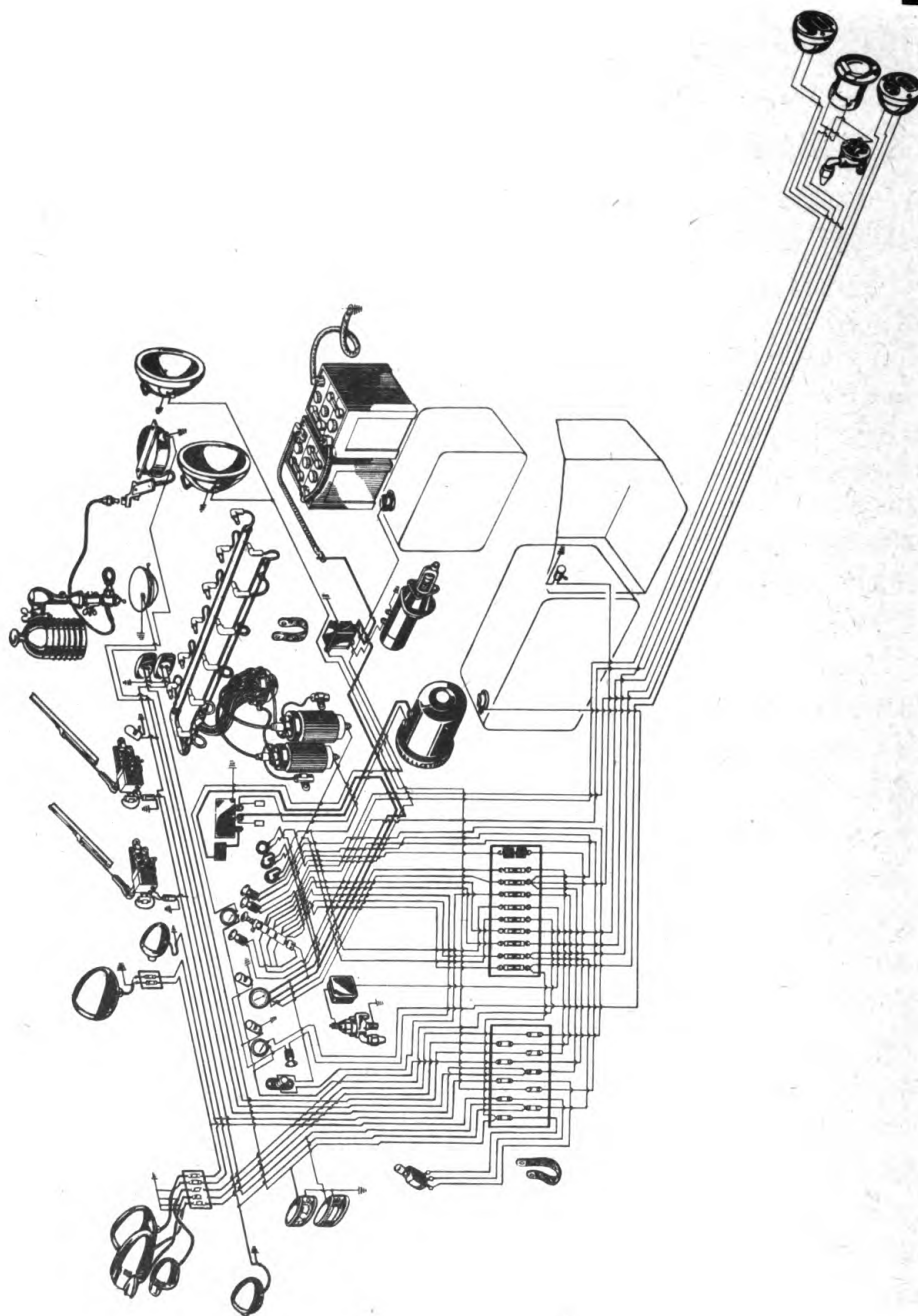

Figure 65 — Wiring Diagram
a. **Description.** The electrical lighting system consists of the lights used for lighting the truck tractor for driving operation and visibility, and the lights used for signaling purposes. The electric accessories consist of the switches used for controlling the lights, the electric windshield wipers, and the wiring. All electric units are operated by the two storage batteries and are controlled by switches on the instrument panel or on the unit (TM 9-767). The wiring connecting the units and circuit used is shown on the wiring diagram (fig. 65).